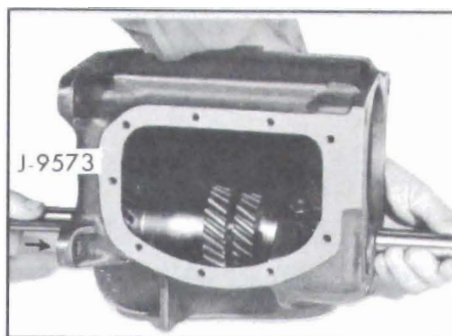

Figure 4-59—Removing Counter gear With J-9573
16. From the front of the case, remove countershaft (Figure 4-59) with J-9573; then remove the counter gear and both tanged washers.